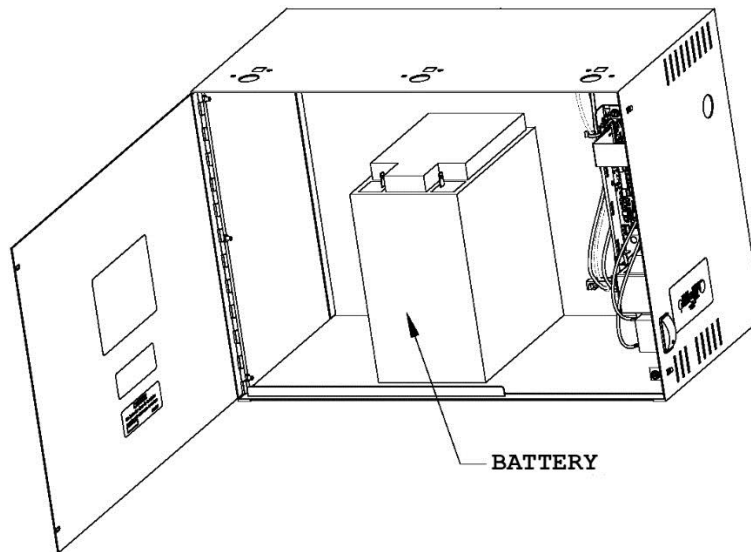

Figure 3
8. Install batteries in battery chamber. **DO NOT LIFT BATTERY BY TERMINALS.** (Figure 3)